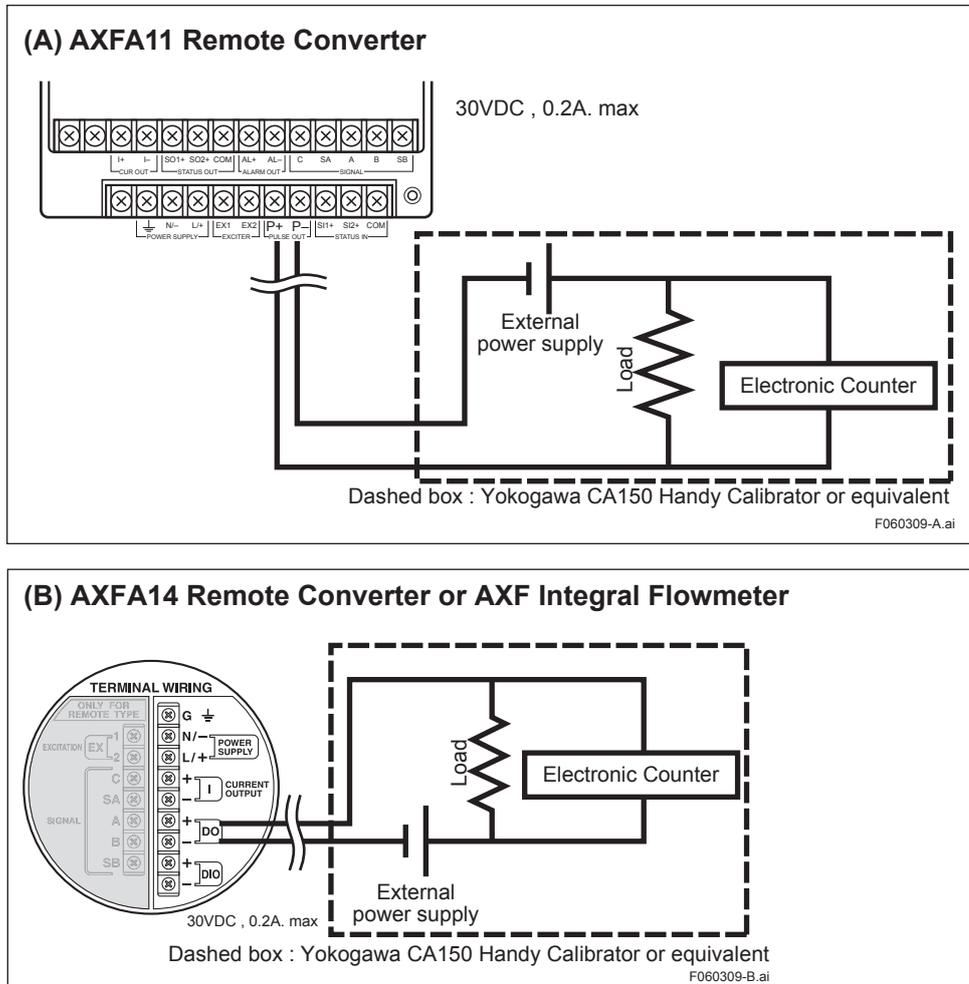

Figure 6.3.9 Pulse Output Diagram (without optional code EM)
- 1) Wire AXF and CA150 Handy Calibrator or similar as shown in **Figure 6.3.9**.
- 4) Measure the pulse output value in “pps” with a Yokogawa CA150 Handy Calibrator or equivalent to simplify the measurement of pulses. If such a device is unavailable, an appropriate load (30V DC, 0.2A max) is required and use the configuration shown in **Figure 6.3.9**.